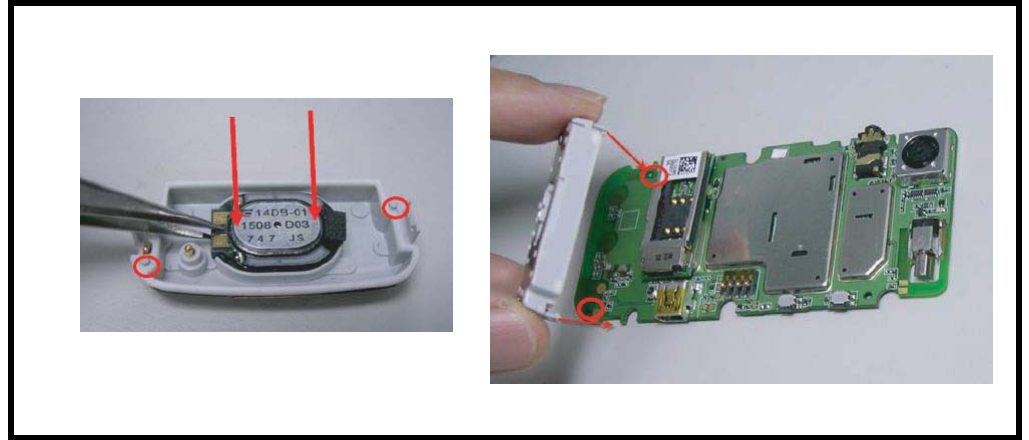

Figure 44. Removing the Speaker
5. Align the hooks of Antenna carrier to the Main PCBA hole which indicate in the figure 44 to assembly.